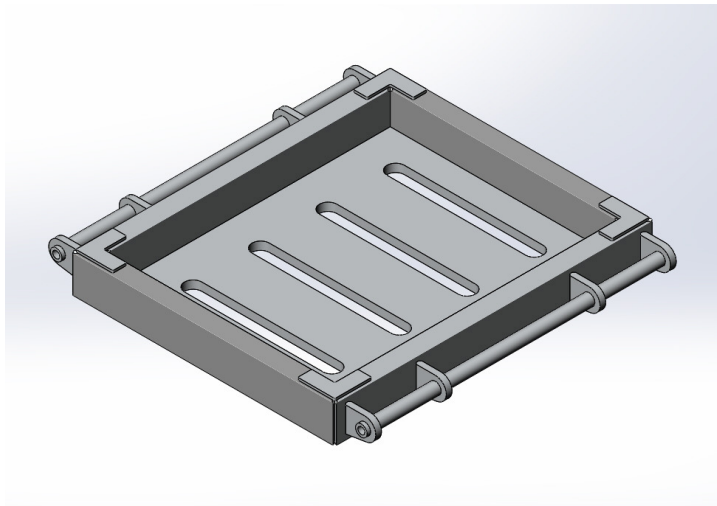

FIGURE 1
1. Thoroughly inspect the pads prior to use. Look for any deformation or cracking in the welded areas. The pads must be removed from service and repaired or replaced as necessary if any defects or cracks are found (Figure 1).